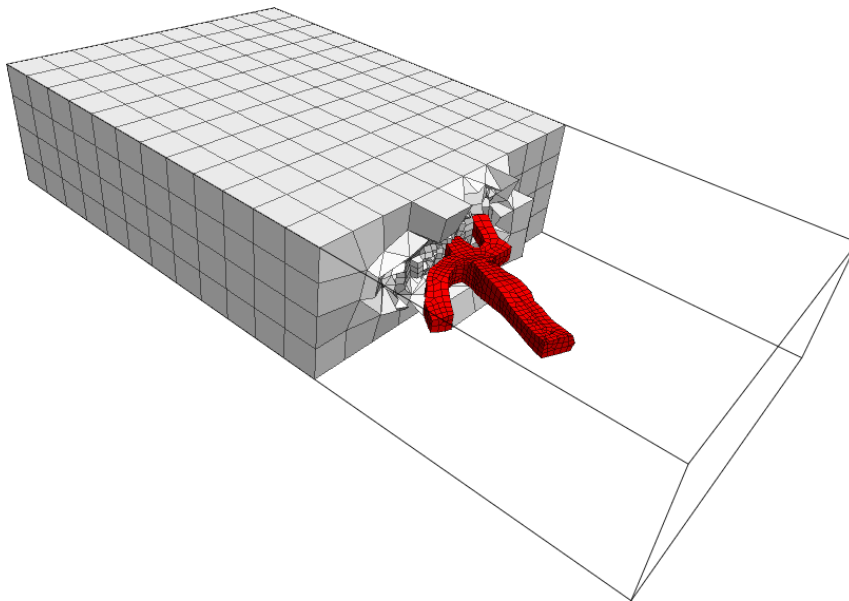

Figure 110: Griddle generated hex-dominant volume grid read into *FLAC3D*.
8. Type **_SelMesh** to select all the meshes. Type **_GVol** and use **Mode:ConHexDom** with *FLAC3D* output to generate a volume mesh. The resulting volume grid *GVol.f3grid* can be read into *FLAC3D* and used for numerical simulations (Figure 110).